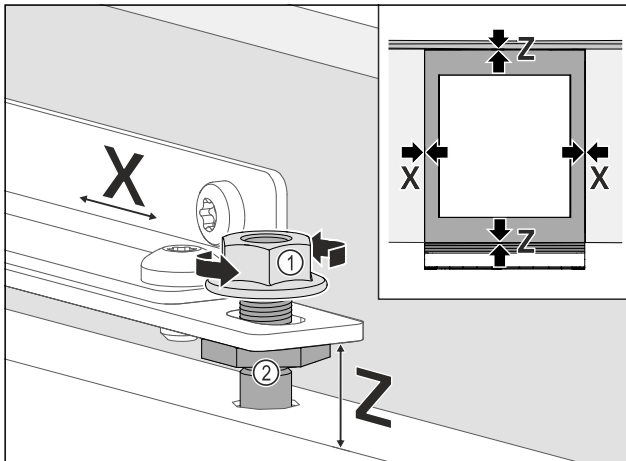

Fig. 77
- ▶ Align the unit door laterally: Loosen the lock nut Fig. 77 (1), move the unit door in X direction.
- ▶ Tighten the lock nuts Fig. 77 (1).
- ▶ Align the height Z and lateral inclination of the unit door: Set the adjustment bolt Fig. 77 (2).